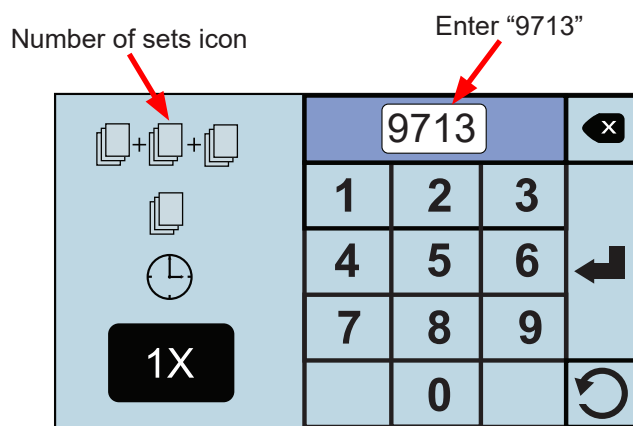

Fig. 58
- Press the number of sets “” icon, it will turn blue when selected (Fig. 58). Use the keypad to enter “9713” (Fig. 58).